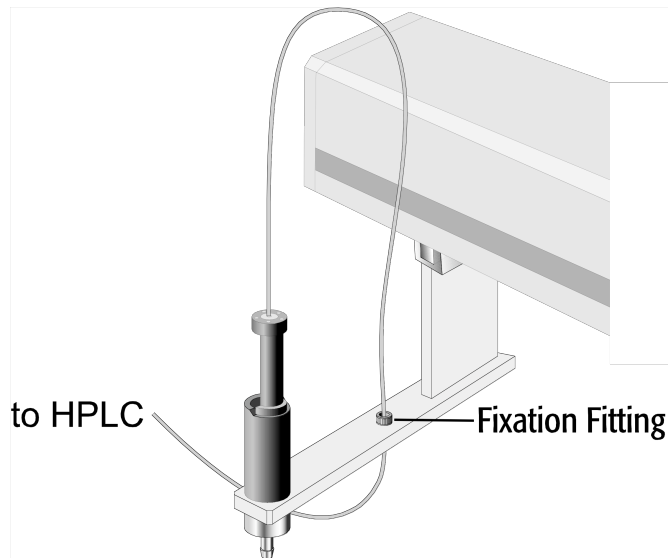

Figure 7. Installing the Tool Parkstation
- 3 Guide the end of the PEEK tubing through the the red fitting mounted at the rear side of the Tool Parkstation. Make sure the tubing length allows the MALDI Tool to reach the whole working area but keep it as short as possible. If the necessary tubing length is properly adjusted, tighten the red fitting on the Tool Parkstation (view Fig. 7 page 17).